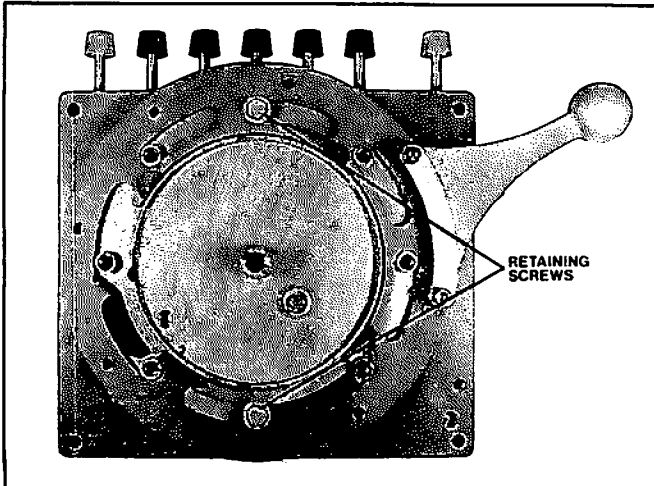

Figure 2. Removal of Preset Retaining Screws.
1. Remove and discard the two hex head screws and washers that secure the springloaded knockoff plate to the bottom of the Preset (Figure 2). Ensure that the knockoff plate does not fall away from the Preset or damage to the the knockoff plate return spring may result.